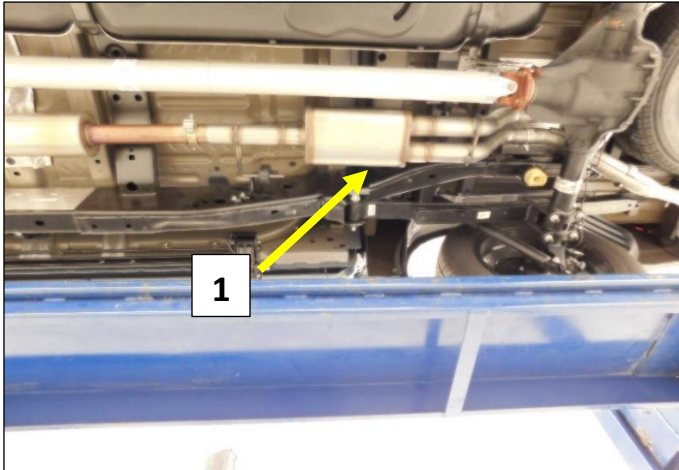

Figure 5
1. Install the Holley muffler assembly (1) into the outlet of the resonator pipe and support with a jack stand. **Fig.5**
2. Install the hanger rod isolator assembly (B) on to the front hanger rod (A). Install the two bolts into the frame rail. Level the muffler assembly and tighten the band clamp on the resonator **Fig.**